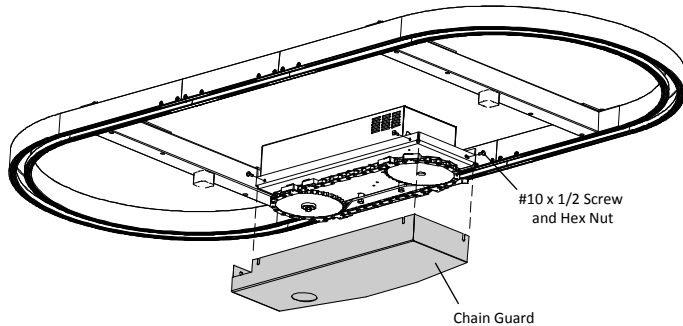

Figure 10
- The chain guard fits under the drive and covers the drive chain. Orient cover with notched end towards the cross arm (see Figure 10).